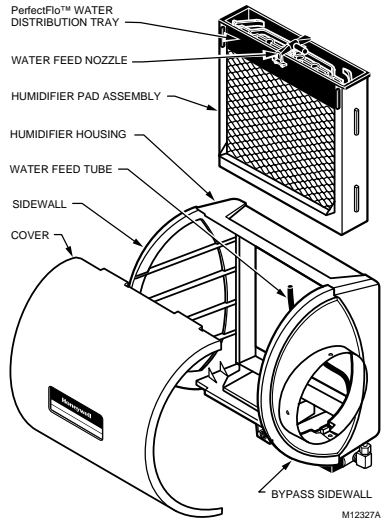

Fig. 16. Cleaning your humidifier.
2. Remove the humidifier cover. See Fig. 16.